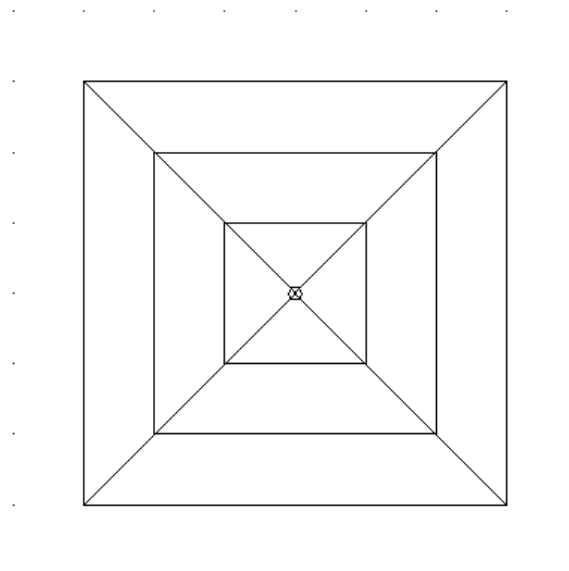

Figure 4-100
7. Finally select **Draw/Circle/Center Radius**. Select **Right-click/Snaps/Midpoint** then place the cursor in the center left click the mouse button and move the cursor slightly away from the center. Notice the circle follows the cursor. The radius of the circle is given on the status bar (d). Make d about 3ft (1m). Left click to place. The symbol should look like Figure 4-100.